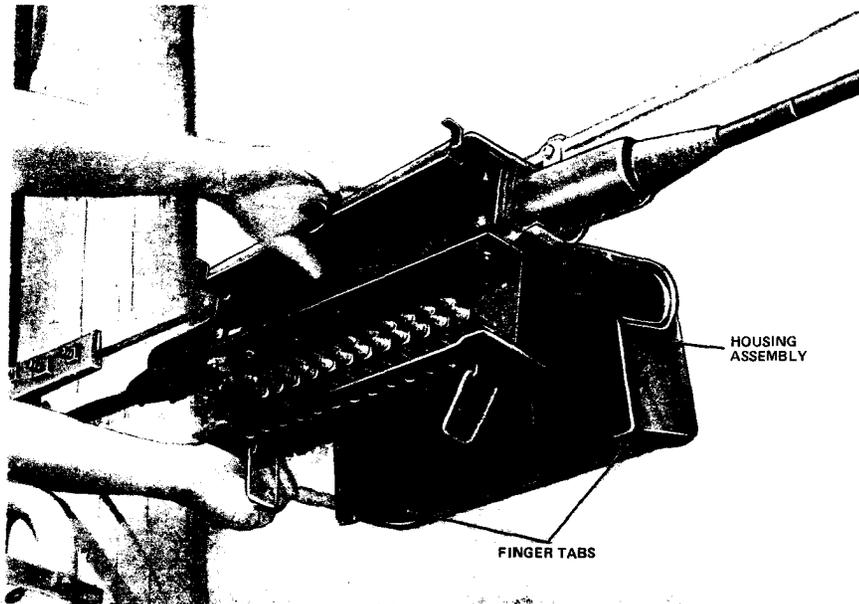

Fig. 19—Installing Housing Assembly
4.08 Place the housing assembly on the terminal panel assembly by sliding the door of the housing assembly between the cable and strand (Fig. 19).